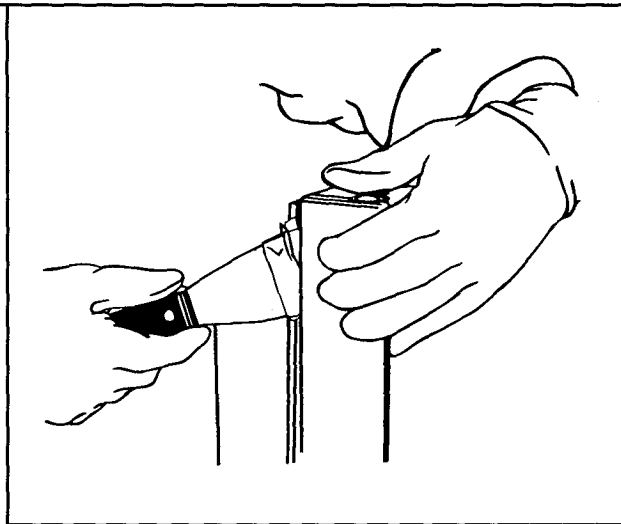

Figure 71
- a. With a taped putty knife carefully remove handle side trim. See Figure 71.